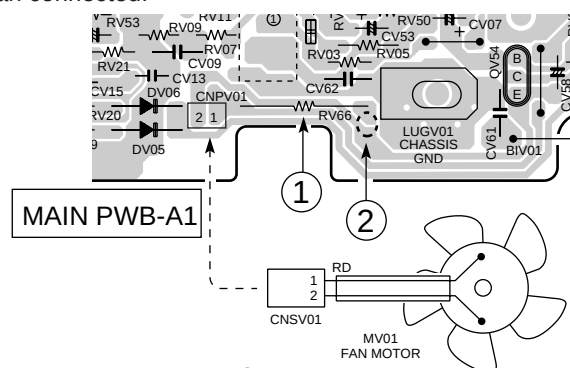

Figure 8-1
- This model is equipped with a fan. If you remove the fan to service the unit, it enters the protection mode and the power cannot be turned on by pressing the POWER button. In such a case, follow the procedure below. (Refer to Fig.8-1.)